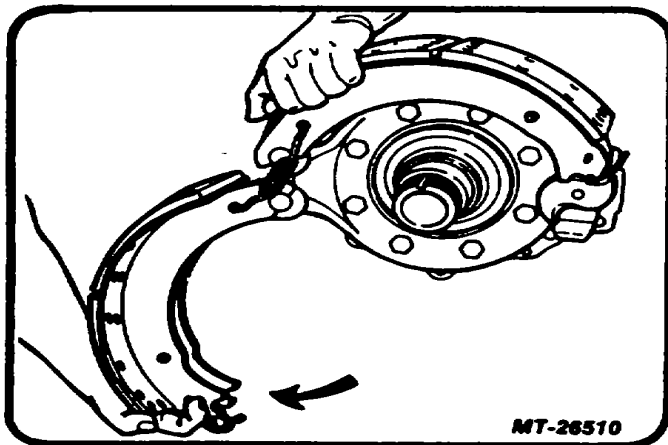
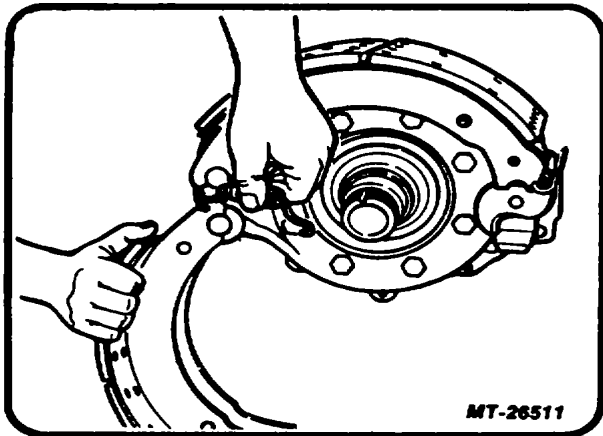

Fig. 15. Rotate Lower Shoe Approximately 180°
Fig. 16. Removing Retainer Springs
- Swing lower shoe back about 180° to relieve the tension on the retainer springs (Fig. 15). Then remove the inboard and outboard retainer springs (Fig. 16).